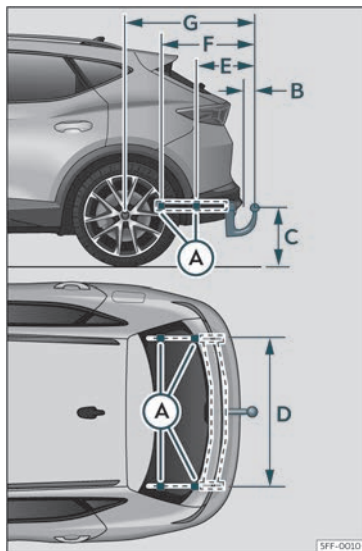

Fig. 186 Limits and attachment points for retrofitting a towing bracket.
The distance between the centre of the ball head and the road»» **Fig. 186** (C) must never be less than that indicated. This also applies when the vehicle is fully loaded, including the technically permissible maximum vertical load on the coupling device.
Distance measurements (measurements can vary depending on the different chassis combinations)»» **Fig. 186** :